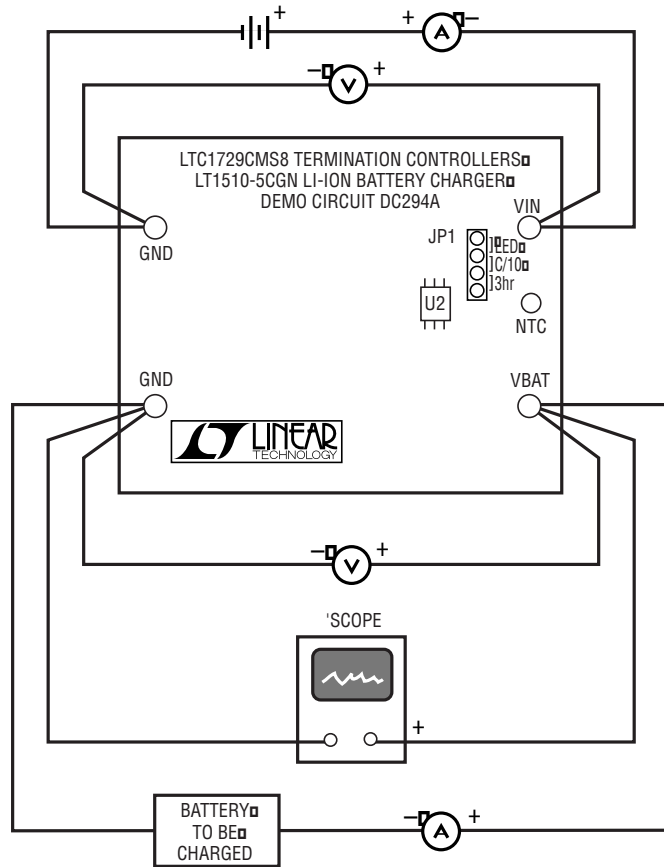

Figure 1. DC294 Setup
1. The demo board comes in four versions, each with a different output voltage. It is very important to determine the correct version for your battery. To verify the output voltage of the board compare the marking on the top of U2 (refer to Figure 1) with Table 1.
2. Before turning on power, connect the input power supply, battery, oscilloscope and meters as shown in Figure 1. For best accuracy, it is important to connect voltmeters directly to the PCB terminals when measuring input and output voltages.